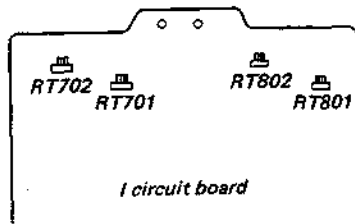
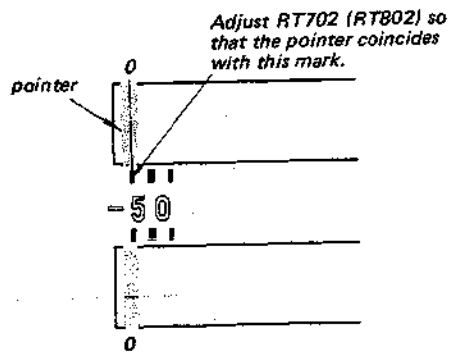

Fig. 3-6. Adjustment parts location
Fig. 3-7. Peak program meter adjustment
2. With no input signal, adjust RT702 (L-CH), RT802 (R-CH) (See Fig. 3-6) so that the pointer indicates the specified position on the meter scale shown in Fig. 3-7.
5. Adjust RT701 (L-CH), RT801 (R-CH) (See Fig. 3-6) so that the pointer indicates the specified position on the meter scale as shown in Fig. 3-8.